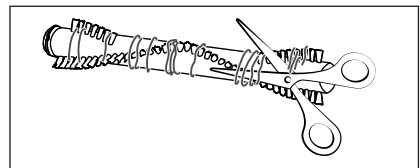

Fig. 26
- 4) Cut threads and hairs along the bristles of the rotary brush **20** with scissors (see Fig. 26). Remove threads and hair from the rotary brush **20**.